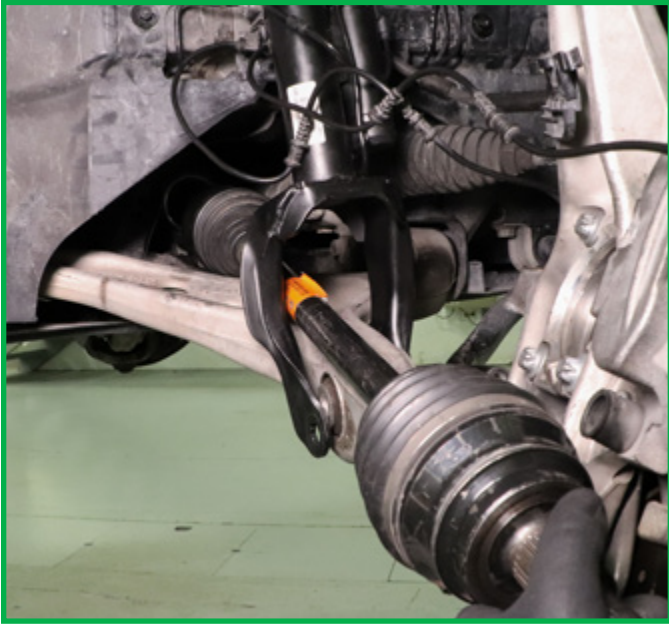

FIGURE 18
15. Pull out axle and remove air strut. (Figure 18, 19)